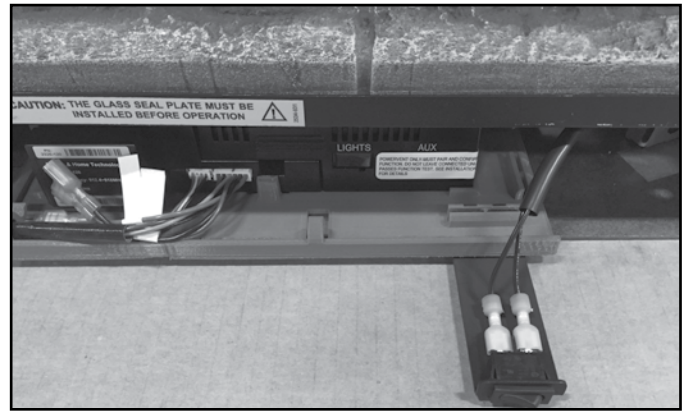

Figure 3
3. Insert the tab of the rocker switch bracket into the rocker switch bracket slot by lifting the component tray and sliding the bracket into position. Press lightly on the component tray to snap the bracket into position. See Figure 3.
4. The rocker switch wire, located on the outer wrap on right side of the appliance needs to be fed back through the grommet. Run only enough wire back through to reach the rocker switch location and attach to the rocker switch. Leave the excess wire outside of the unit. See Figures 3 and 4.